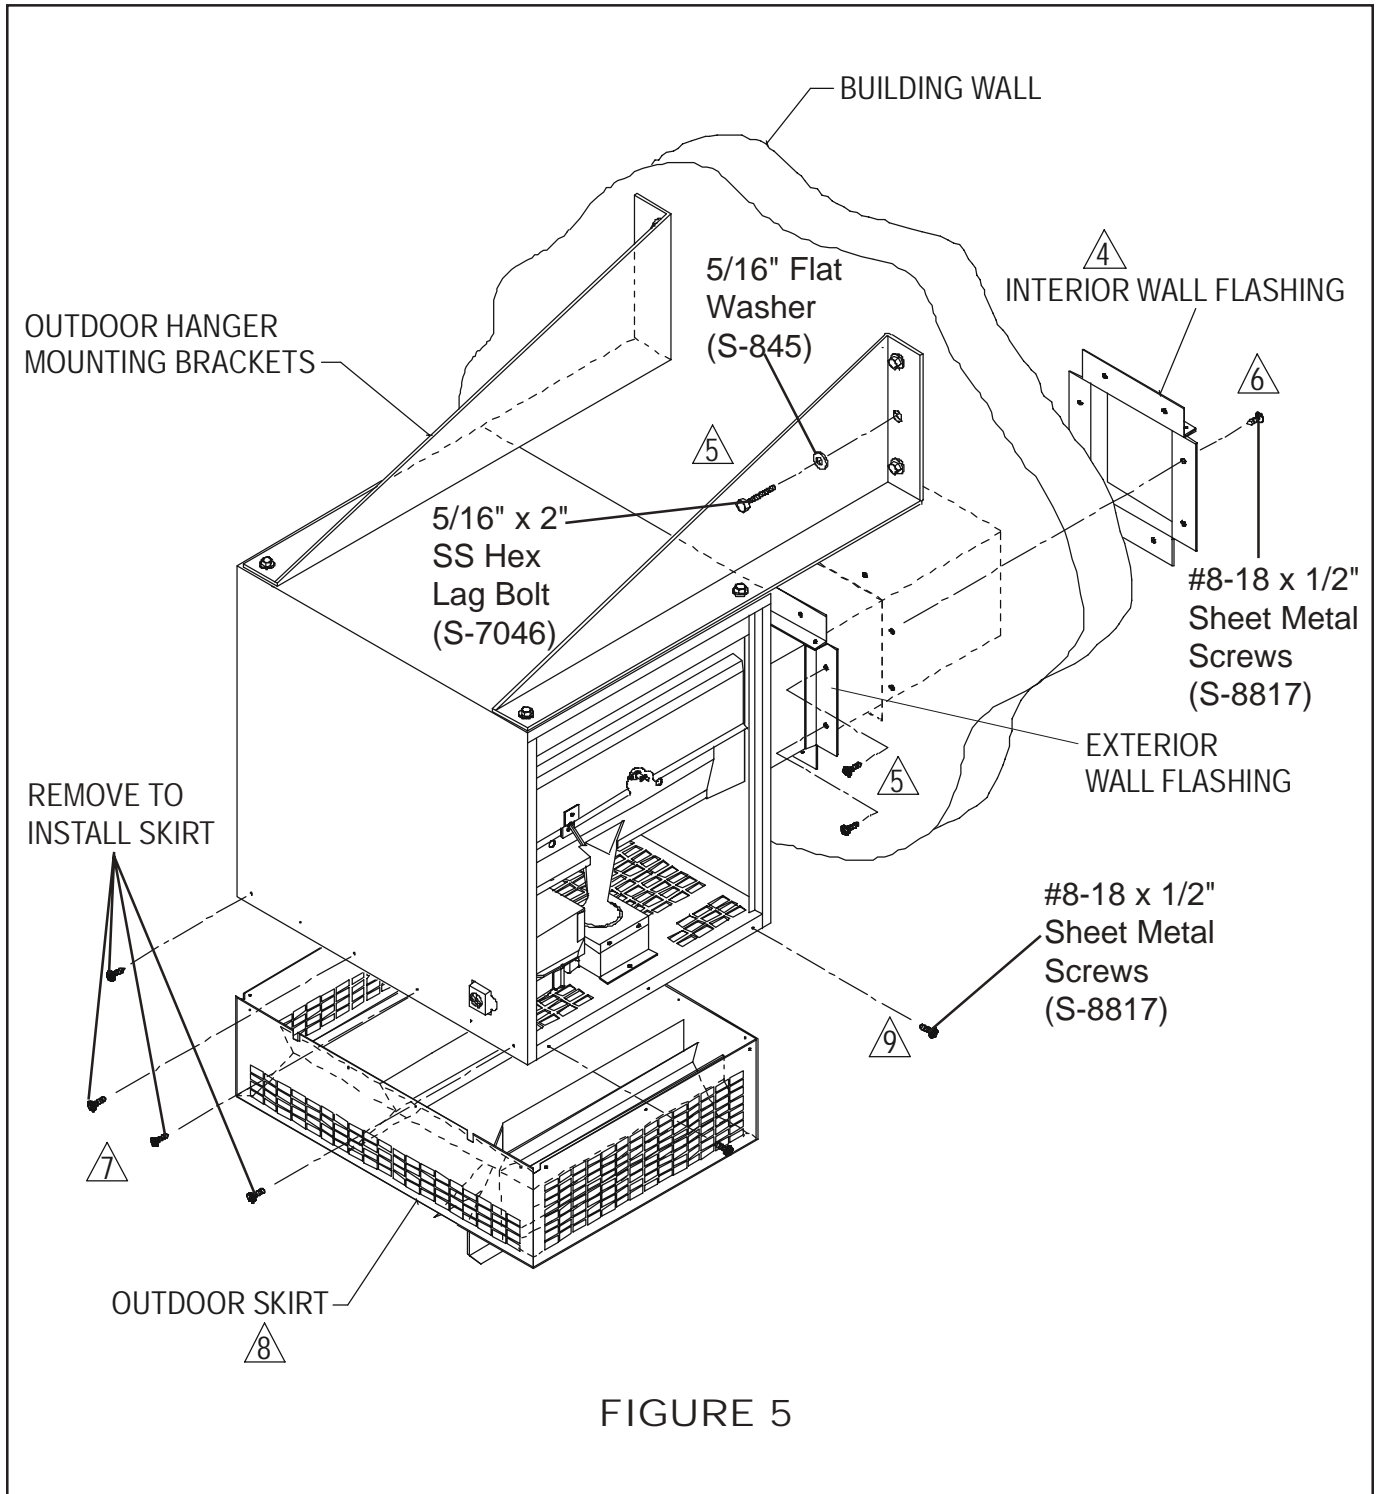

FIGURE 5
4. Remove the interior wall flashing from the discharge duct. (See Figure 5.)
5. Using proper lifting equipment, raise the unit with the hanger brackets and discharge duct attached. (See Figure 5.) Insert the discharge duct into the wall opening and fasten the hanger brackets to the wall with (6) 5/16" x 2" long lag bolts and washers as shown. Check the hanger brackets, they should be vertically level. Shim if necessary.
6. Fasten both the interior and exterior wall flashing to the wall, using (8) self tapping sheet metal screws on each. Caulk around the exterior flashing joint to seal.
8. Position the outdoor skirt on the outside of the unit base. Fasten the skirt to the front and back panels using the screws removed in step #7. Attach the skirt to the side ends using (2) self-tapping sheet metal screws for each side. (See Figure 5.)